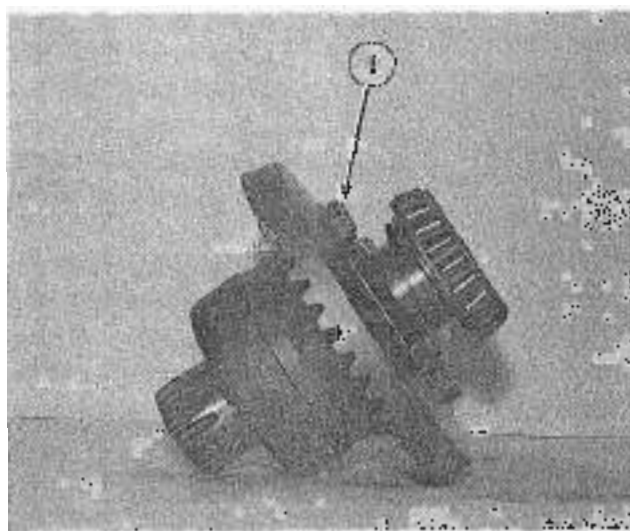

FIG. 1
Tap back the locking tabs securing the (8) 10 x 30 mm, bolts, (1, Fig. 1)